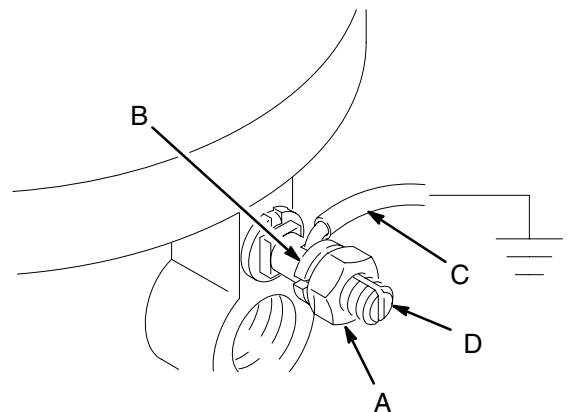

Fig. 1
Fig. 1. Loosen grounding lug locknut (A) and washer (B). Insert one end of a 12 ga (1.5 mm²) minimum ground wire (C) into slot in lug (D) and tighten locknut securely. Connect other end of wire to true earth ground. To order a ground wire and clamp, order part number 222011.